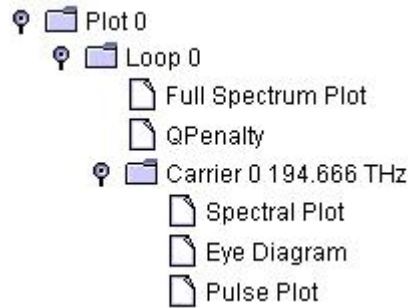

Figure 33 One Example of Graphical Output List
- This symbol tells FiberSim to output the measurement plots and Q-values. The user will see file lists (see Figure 33) shown in the Navigator Panel: